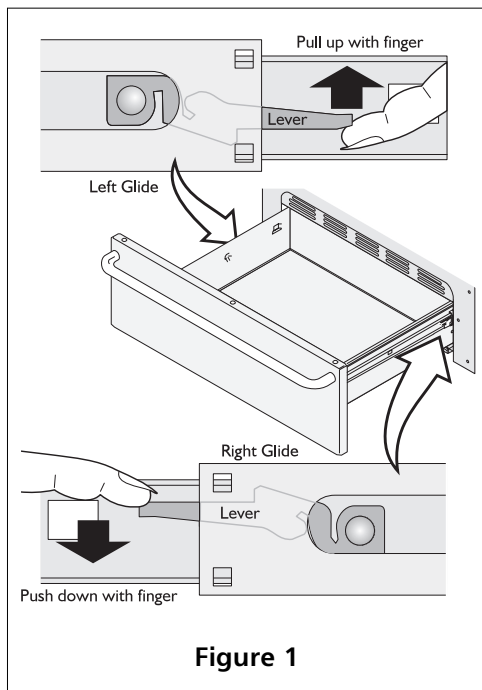

Figure 1
3. Locate glide lever on each side of drawer, pull up on the left glide lever and push down on the right glide lever (see figure 1).
1. Place the spice rack on top of the support posts. Make sure the top lip hooks over the top of the support posts and the side flanges are around the side of the support posts as shown in the diagram in Figure 1.